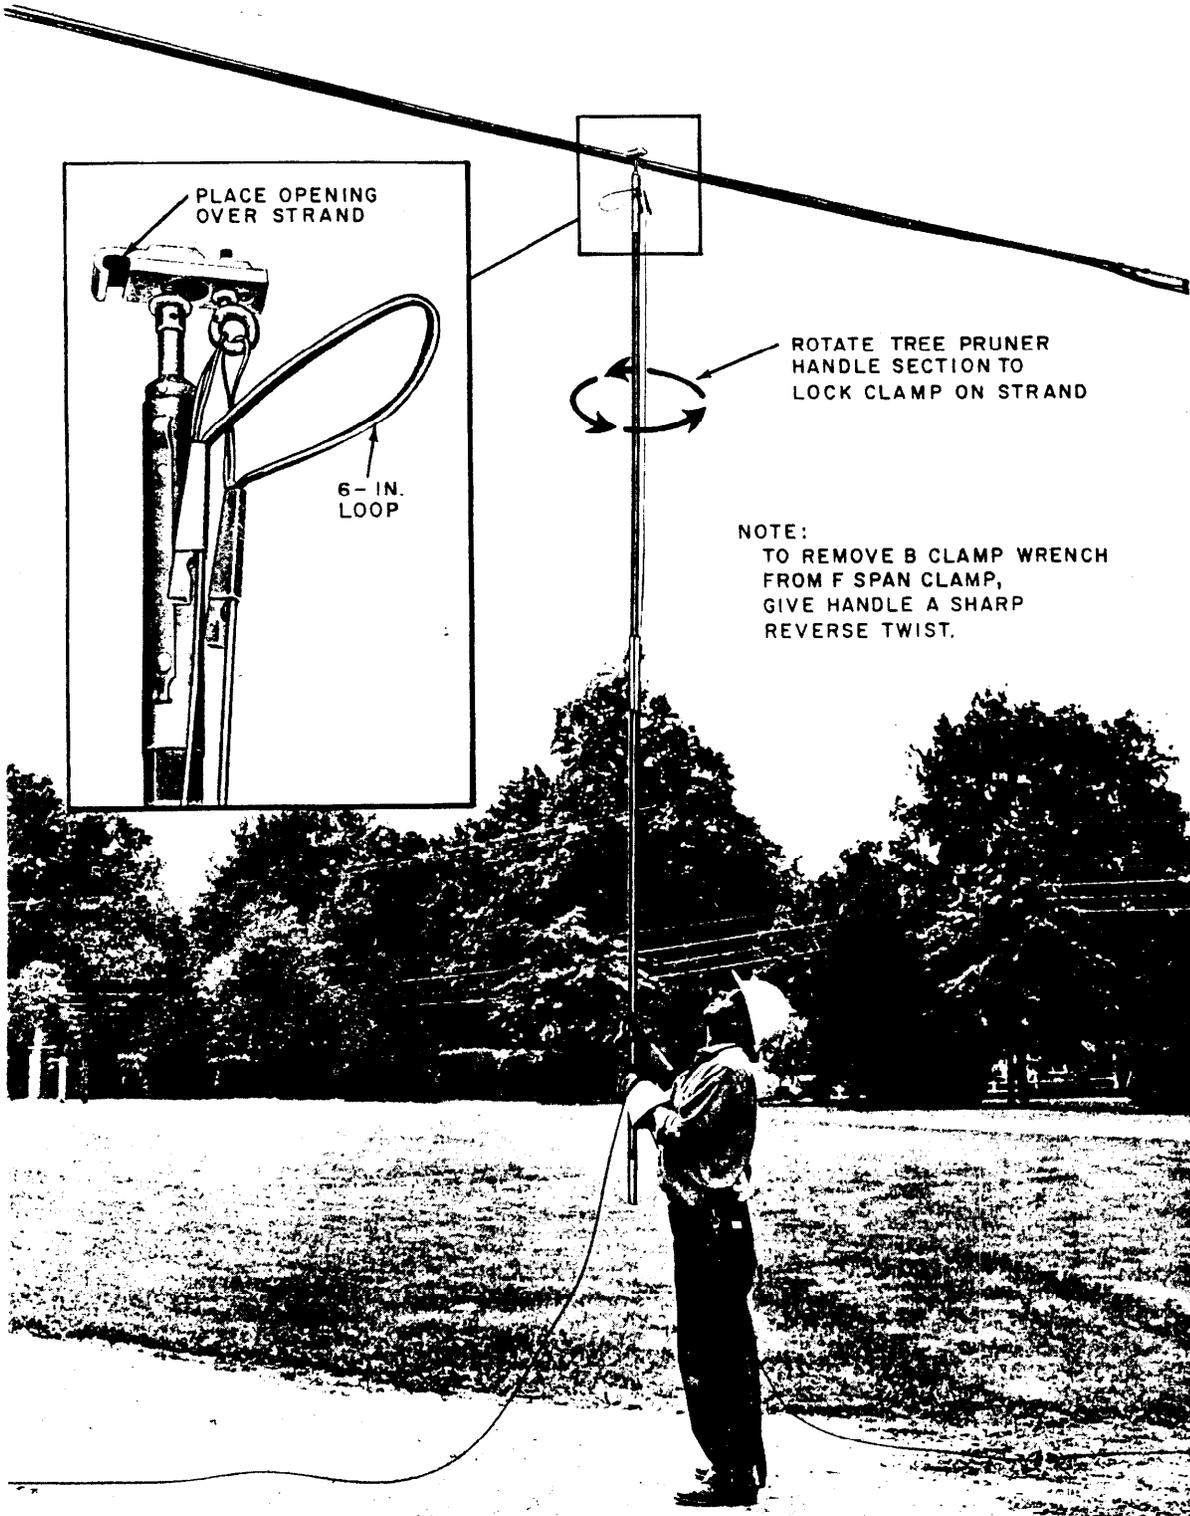

Fig. 28-Installing Span Clamp on Strand
- (5) Install the two drop wire clamps on the drop wire directly below the proposed span clamp location on the strand. Leave a 6-inch loop between the drop wire clamps (Fig. 28). Place the drop wire clamp assemblies on the hook of the F span clamp. The drop wire clamp toward the building attachment should be placed last to prevent accidental disengagement of the other clamp.
- (6) Using enough tree pruner handle sections to reach the strand, raise the span clamp and drop wire assembly to the suspension strand allowing the drop wire to pass through the hands as shown in Fig. 28.
- (7) Rest the F span clamp on the strand. Walk forward slowly until the opening of the F span clamp engages the strand. Make certain the strand is still engaged and slowly rotate the tree pruner handles to lock the span clamp on the suspension strand. Tighten the F span clamp securely.